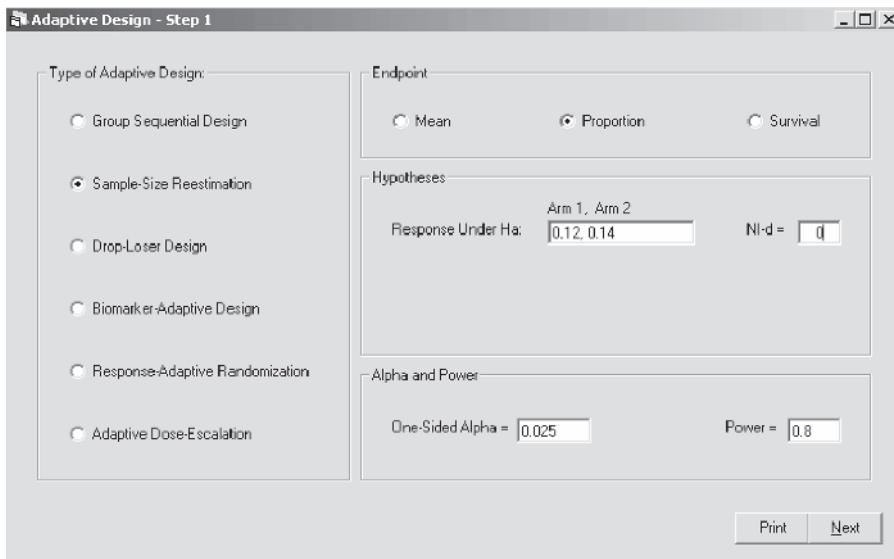

Figure 1.5 Sample size reestimation step 1 window.
1. Click or on the toolbar; the **Adaptive Design-Step 1** window will appear (see Figure 1.5).